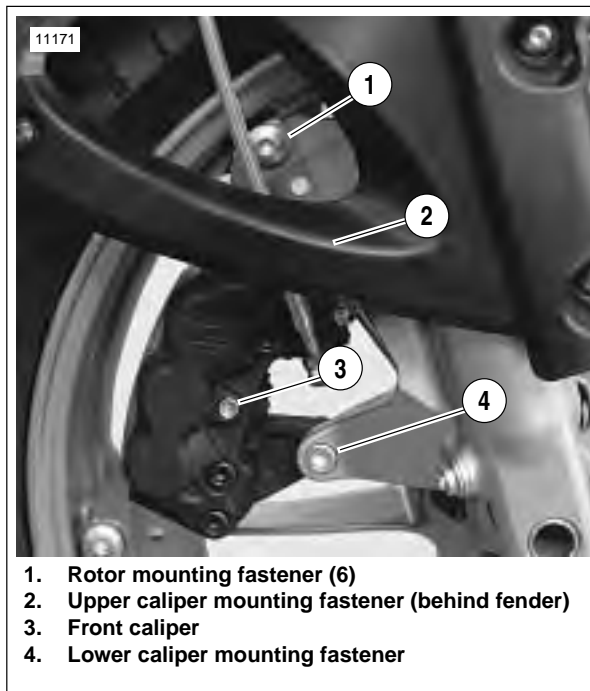

Figure 1-18. Front Brake Caliper
1. See Figure 1-18. Loosen pin hanger under pin hanger plug (3) but do not remove.
2. Rotate wheel so that caliper is centered between rotor mounting fasteners (1).
3. Remove lower caliper mounting fastener (4) that secures caliper to fork lower.
4. Loosen but do not remove upper caliper mounting fastener (2) that secures caliper to fork lower.
5. Remove pin hanger (3).
5. See Figure 1-18. Install pin under pin (3) making sure it engages hole on both pads and spring clip.
7. See Figure 1-18. Install lower caliper mounting fastener (4).
9. Tighten pin (3) to 11-14 ft-lbs (15-19 Nm).